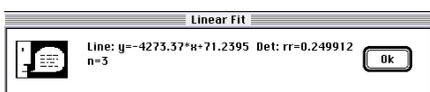

Figure 9.5. The 'Linear Fit' window.
**limits**). All numerical values are displayed in a window: **rr** is the coefficient of determination  $r^2$ , **n** is the number of data points, **sx** is  $\sum x$ , **sy** is  $\sum y$ , **sxx** is  $\sum x^2$ , **sxy** is  $\sum xy$ , and **syy** is  $\sum y^2$  (Fig. 9.5).